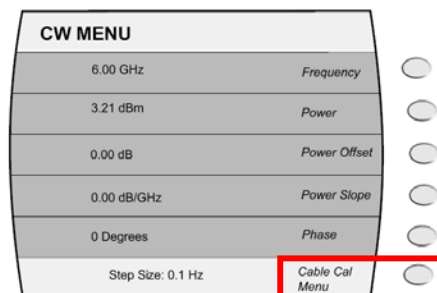

Figure 9
- From the CW menu, press the “Cable Cal Menu” softkey. See figure 9.